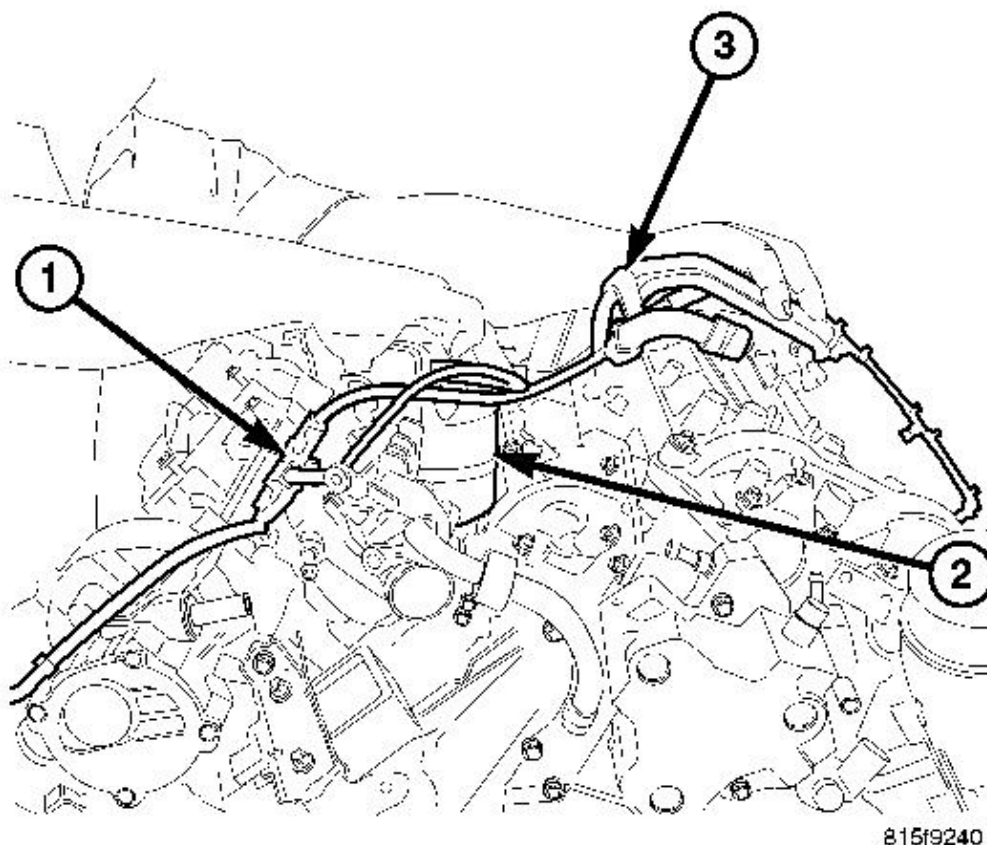

Fig. 63: Fuel Filter, Lines And Hoses
21. Remove the fuel filter (2), hose (1) and pipe (3) assemblies and position aside. See **Fig. 63**.